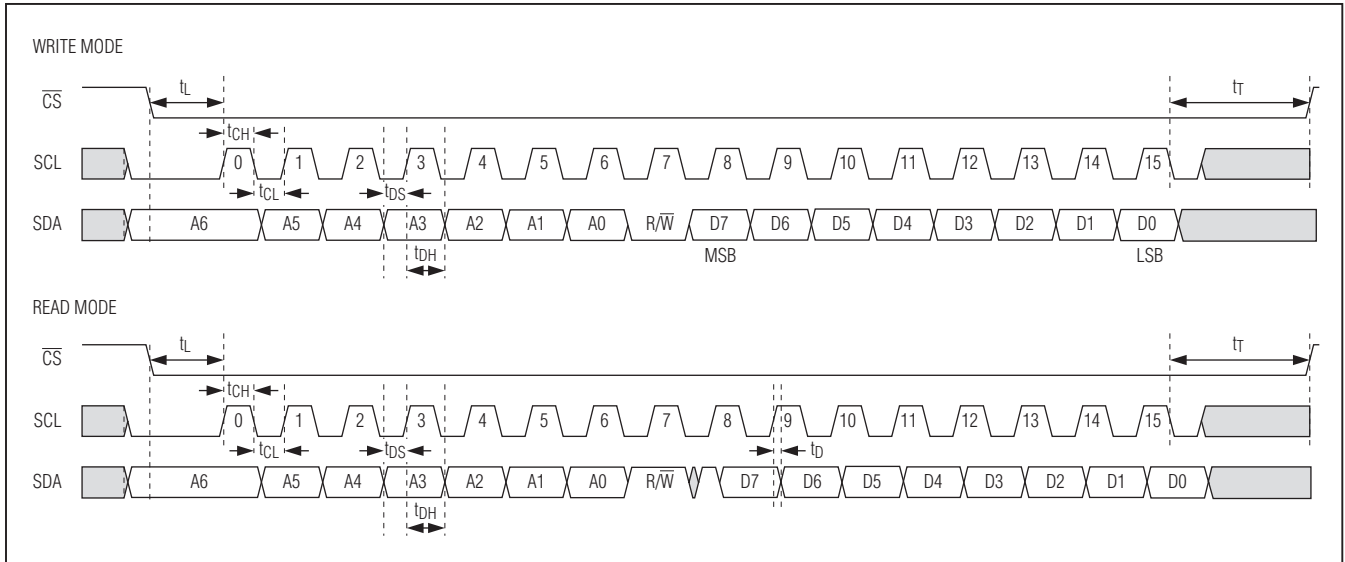

Figure 14. Serial Port Timing Diagram
The serial port provides a 3-wire interface with bidirectional data (SDA), clock input (SCL), and a chip-select input (CS) as shown in Figure 14. Table 6 shows the register addresses. The external master initiates a data transfer by asserting the CS pin.